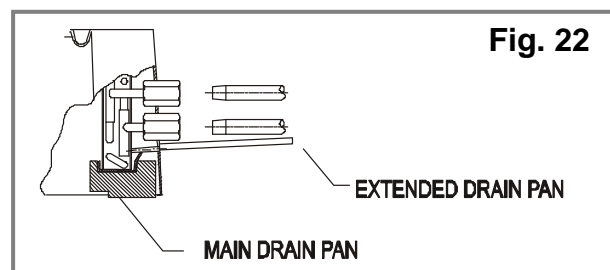

Fig. 22
- Tighten the two screws and making sure the external drain pan is installed flush with the fixing plate. (Fig. 22)